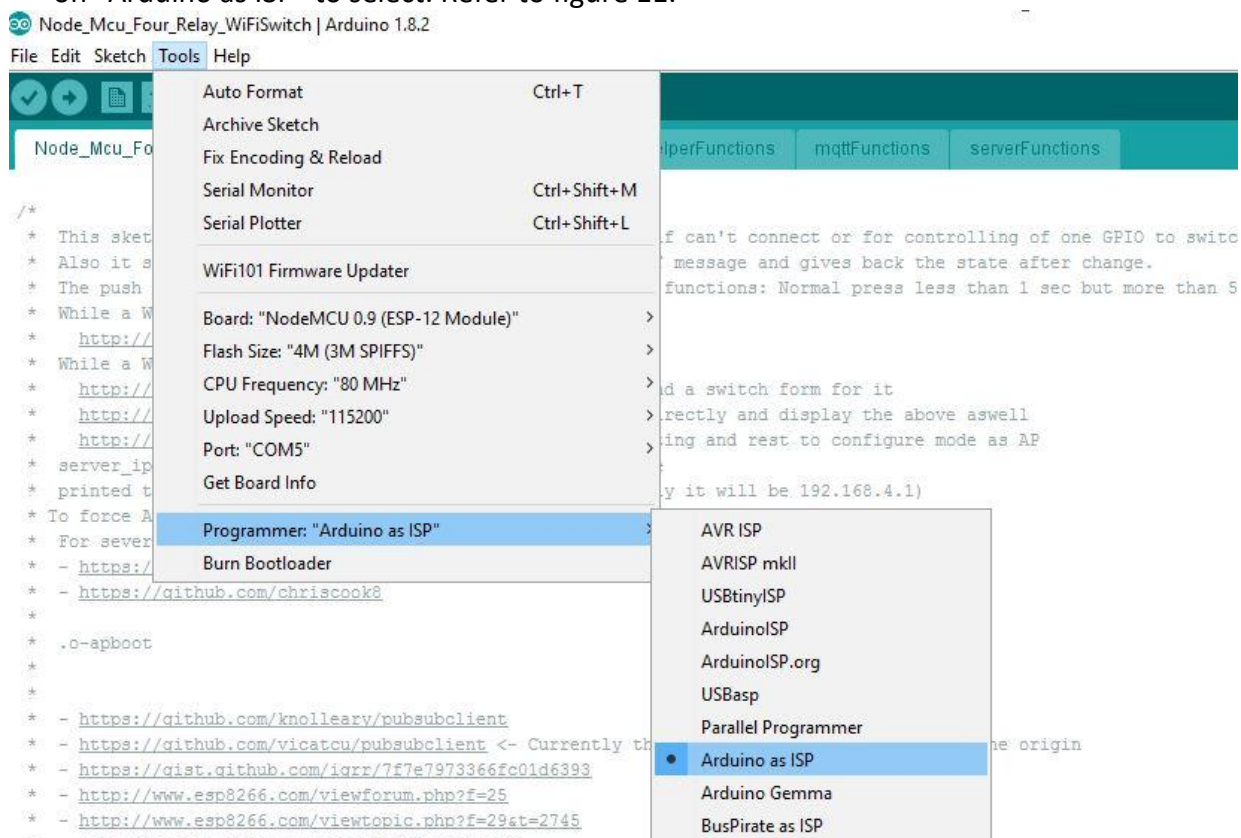

Figure 11: IDE Selection
10. Click on tools tab, move mouse pointer to “Programmer: “Arduino as ISP””, under this click on “Arduino as ISP” to select. Refer to figure 11.